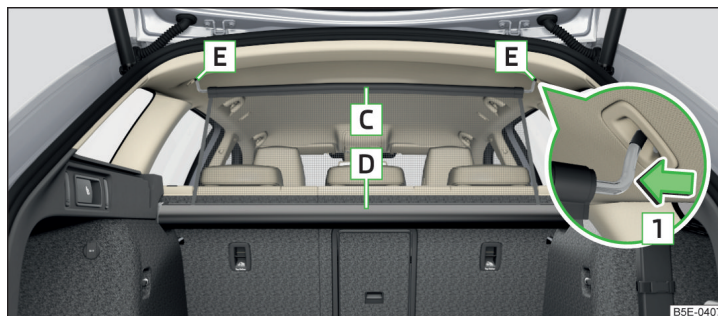

Fig. 116 Net partition behind the front seats in the pulled-out state
- Be convinced that the crossbar of the net partition is firmly seated in the recesses **E** » Fig. 116 on page 112.
- Pull out the net partition at the upper crossbar **C** from the housing **D** » Fig. 116.
- Press on the crossbar and remove it from the receptacles **E**, first on one side, then on the other side » Fig. 116.